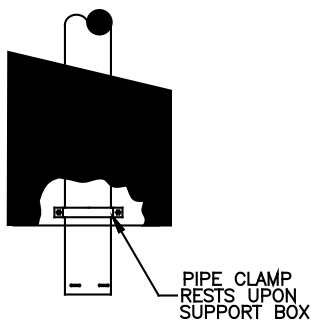

Figure 33
8. Place the Support Clamp, included with Support Box, loosely around Pipe Sections running through hole in Support Box **(Figure 33)**.
10. After all PelletVent Pro Pipe Sections and components are assembled and connected down to the appliance seal and secure the Appliance Adapter to stove. Using a level, make slight adjustments in the position of the appliance until the pipe is truly vertical. Tighten the bolts in the Support Clamp **(Figure 33)**. Note that the overall length of the PelletVent Pro system can be no longer than 42 feet.